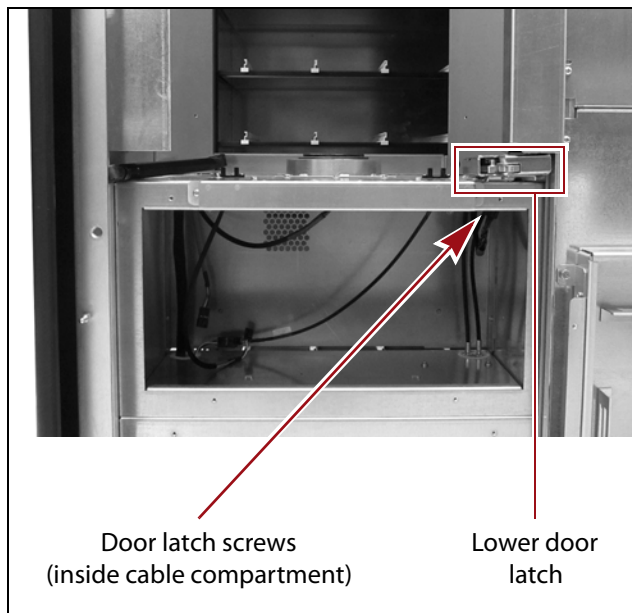

Figure 44 Locate the lower latch screws.
- If you are replacing the lower latch, the screws are in the sensor cable compartment (see Figure 44).